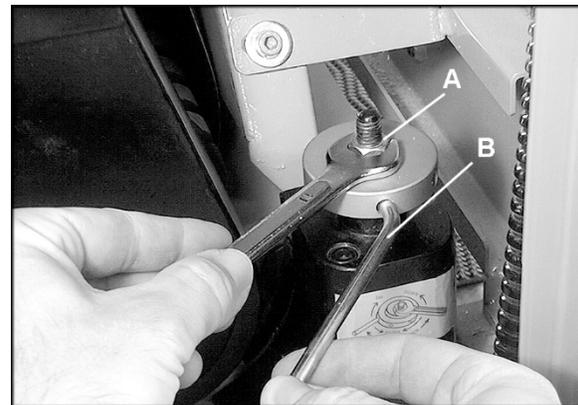

Figure 17
6. If adjustment is needed, release the lock nut (A, Figure 17) with a 14mm wrench.
7. Insert the adjusting tool (B, Figure 17) into a hole in the adjusting knob. Rotate the adjusting knob clockwise to raise that side of the pressure bar, counterclockwise to lower it.
8. When finished, re-tighten lock nut (A, Figure 17).